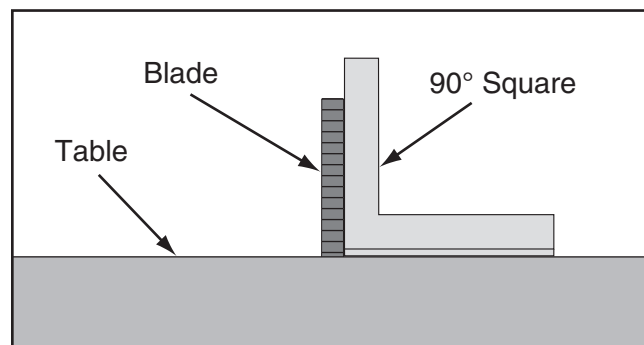

Figure 155. Machinist's square against blade and table.
4. Use machinist's square to check if main blade is square to table (see **Figure 155**).